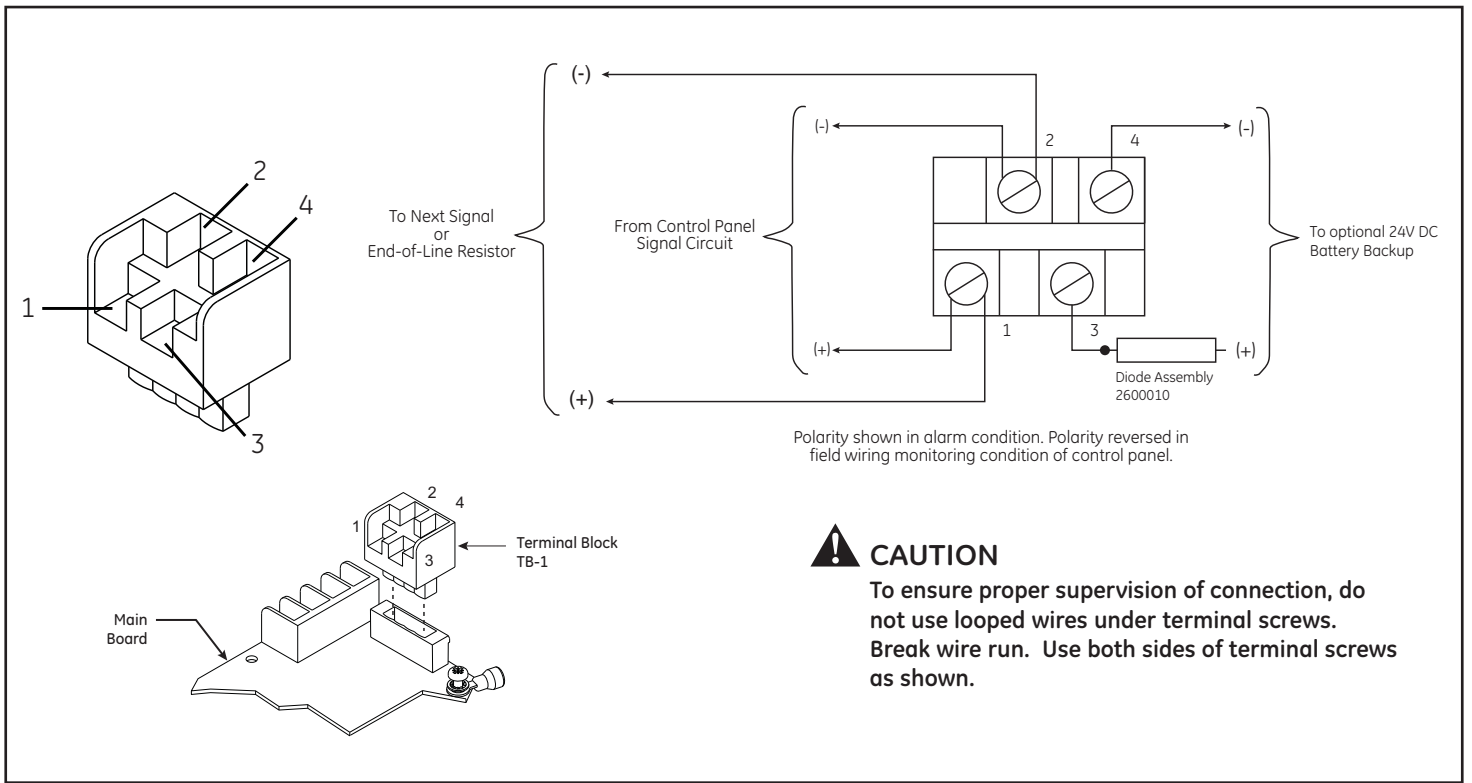

Figure 3. Wiring to Terminal Block TB1
To ensure proper supervision of connection, do not use looped wires under terminal screws. Break wire run. Use both sides of terminal screws as shown in Figure 3.
- b. Connect incoming power to TB1 terminals 1 and 2 on the main board as shown in Figure 3. Polarity must be observed.
- c. Connect wires leading to next signal or end-of-line resistor to TB1 terminals 1 and 2 on the main board as shown in Figure 3. Polarity must be observed.
- d. Optional. Connect external 24V DC battery (not supplied) in series with separate diode assembly part 2600010 (supplied) to TB1 terminals 3 and 4 on the main board as shown in Figure 3 and marked on the diode assembly.
NOTE: Terminal Block TB1 can be unplugged from the main board to complete wiring as shown in Figure 3.